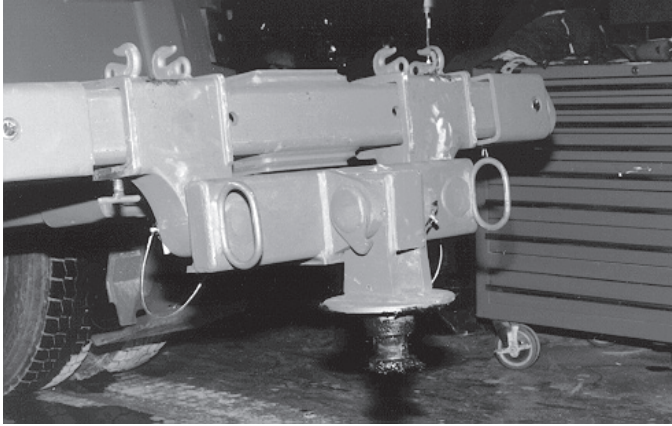

FIGURE 4A.16
- (d) Position and align kingpin adapter at proper elevation and extend underlift until adapter engages and locks into fifth wheel on the tractor. Refer to Figure 4A.15.